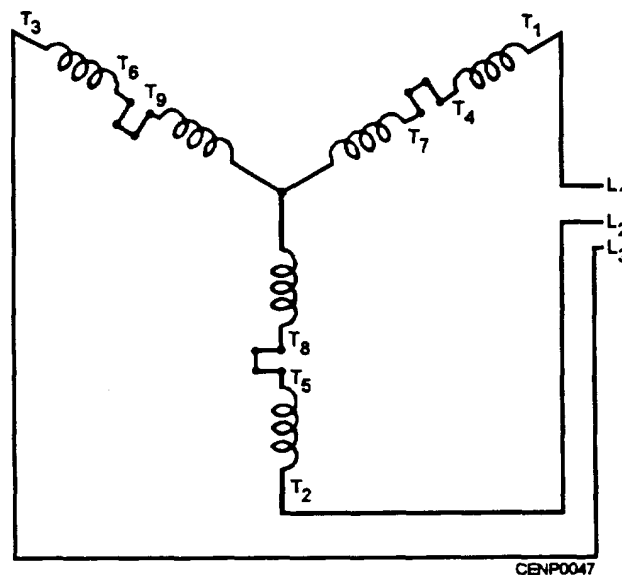

Figure 7-47.—Two-voltage wye motor windings connected in series for high-voltage operations.
**HIGH VOLTAGE.**—to connect for high voltage, you should connect groups in series, as shown in figure 7-47. Use the following procedure: